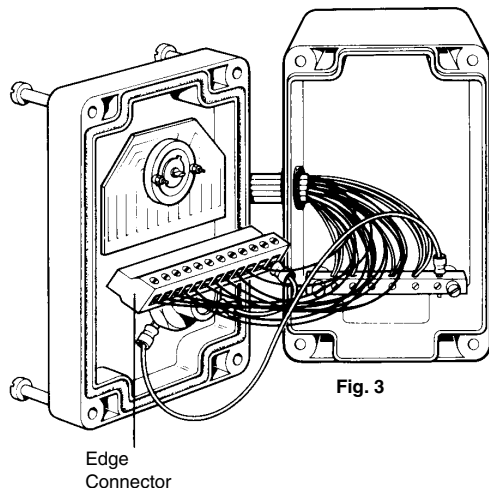

Fig. 3
5. In the case of R12, connect the extension from all red or green wires to the numbered terminals on the edge connector, noting the number of each sensor. The test sheet provided can be used for this purpose. Extensions from all the blue wires should be connected to the square ground bar in the base of the box. With screw heads facing outwards, push the edge connector onto the printed circuit board (Fig. 3).